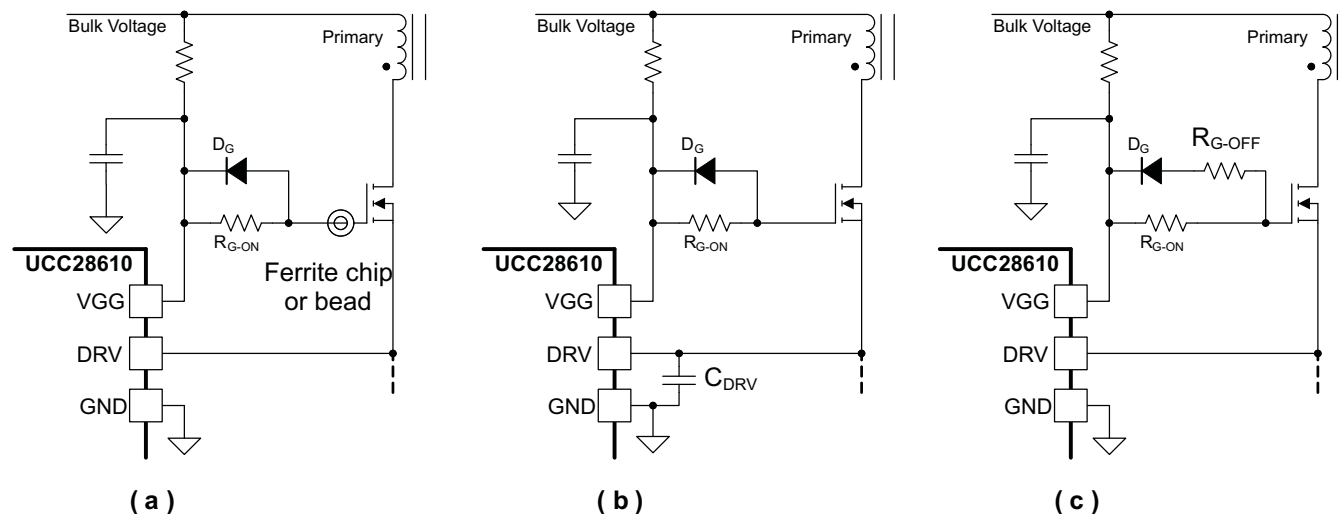

Figure 35. High Frequency Ringing Solutions, (a) ferrite chip, (b) CDRV and (c) RG-OFF
3. A gate turn-off resistor. These three techniques can be used separately or combined, as shown in Figure 35.